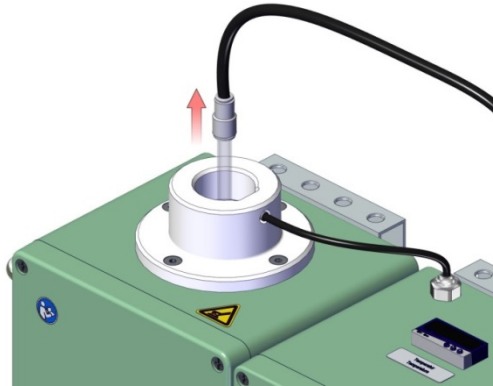

Figure 5.3.5
- At the conclusion of the measurement, the Quartz Tube should be removed from the Heater. (The measurement ends after the selected time limit is reached, after the “Stop” button is pressed, or after the Quartz Tube is removed.) (See Figure 5.3.5).